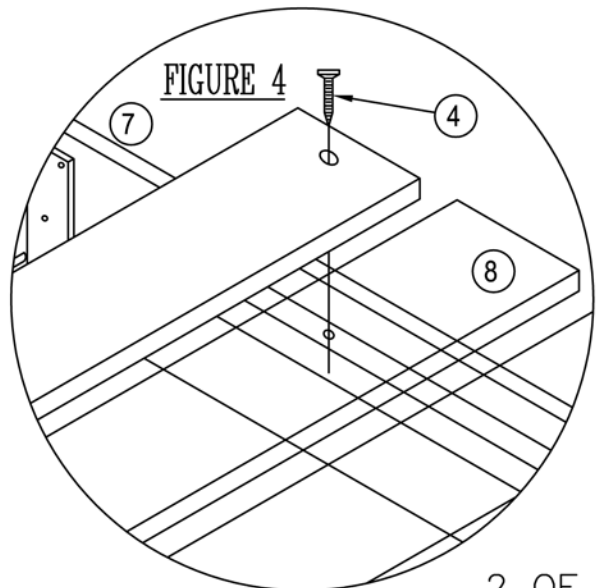

FIGURE 4
- Secure both ends of slat system (8) to the side rails (7) with screw (4). (See Figure 4) Tighten all screws